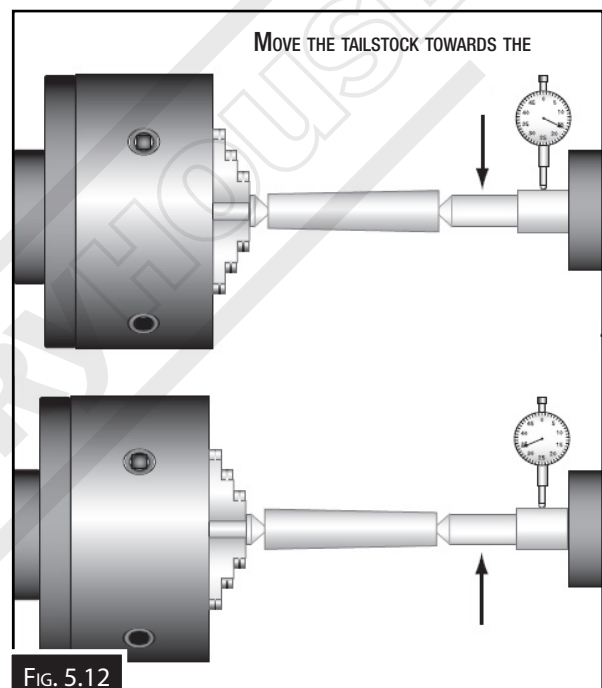

FIG. 5.12
6. Mount a test or dial indicator so that the plunger is on the tailstock quill and set the dial to "0". (Fig. 5.12)